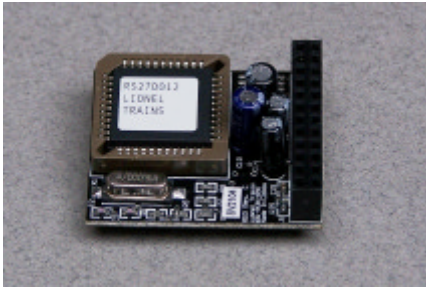

Fig. 2a. Railsounds Audio Board
- Identify the Audio Board from Fig. 2a. and insert it into the designated socket on the motherboard. Line up the pins with the connector and push the board forward until it is fully seated.
- Insert the Railsounds Audio Board into the proper socket. Identify the Audio Board from Fig. 2a. Line up the pins with the connector and push the board forward until it is fully seated.